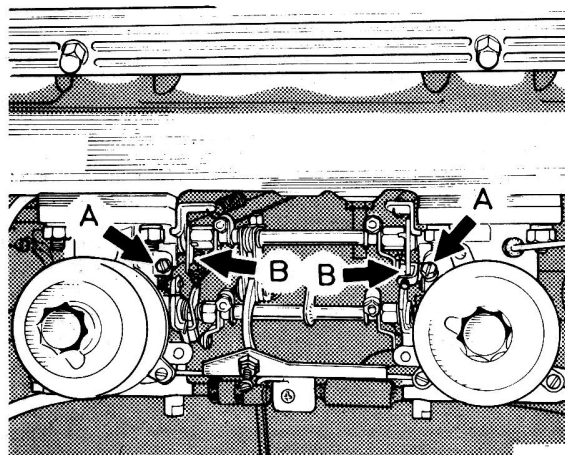

Fig.3.31. Adjustment of the HS6 carburettor
- 7 Unscrew the throttle adjusting screws ("A" in Fig.3.31) until they are just clear of their stops and then screw down 1½ turns open.